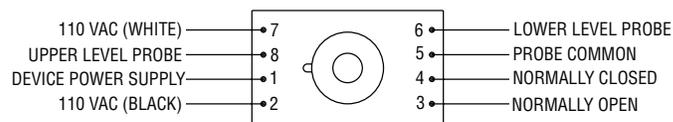

FIGURE 2
- Attach the black lead between the common probe terminal and terminal five (5) on the socket mount. See figure 2.
- Attach the white lead between the lower level probe terminal and terminal (6) on the socket mount.
- Attach the red lead between the upper level probe terminal and terminal eight (8) on the socket mount.
- Connect the device power supply to terminal 1. (The device power supply is the voltage required by the device (pump, valve, etc.) being turned in or off. This voltage can be either AC or DC Volts and up to 220 VAC max.) See figures 2 and 3.
2. Connect the device power supply to terminal 1. (The device power supply is the voltage required by the device (pump, valve, etc.) being turned in or off. This voltage can be either AC or DC Volts and up to 220 VAC max.) See figures 2 and 4.